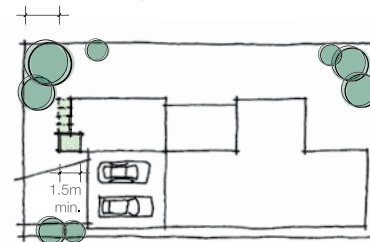

Figure 9
- Open verandahs, and entry porticos can encroach into the minimum front setback, however a minimum setback of 3.0m from the lot boundary must be retained. (Refer to Figure 9)
- An entry portico must have a minimum depth of 1.5m. (Refer to Figure 9)
- The top of a cut must be no less than 1m from any boundary (except where building a wall of a house on the boundary). (Refer to Figure 9)